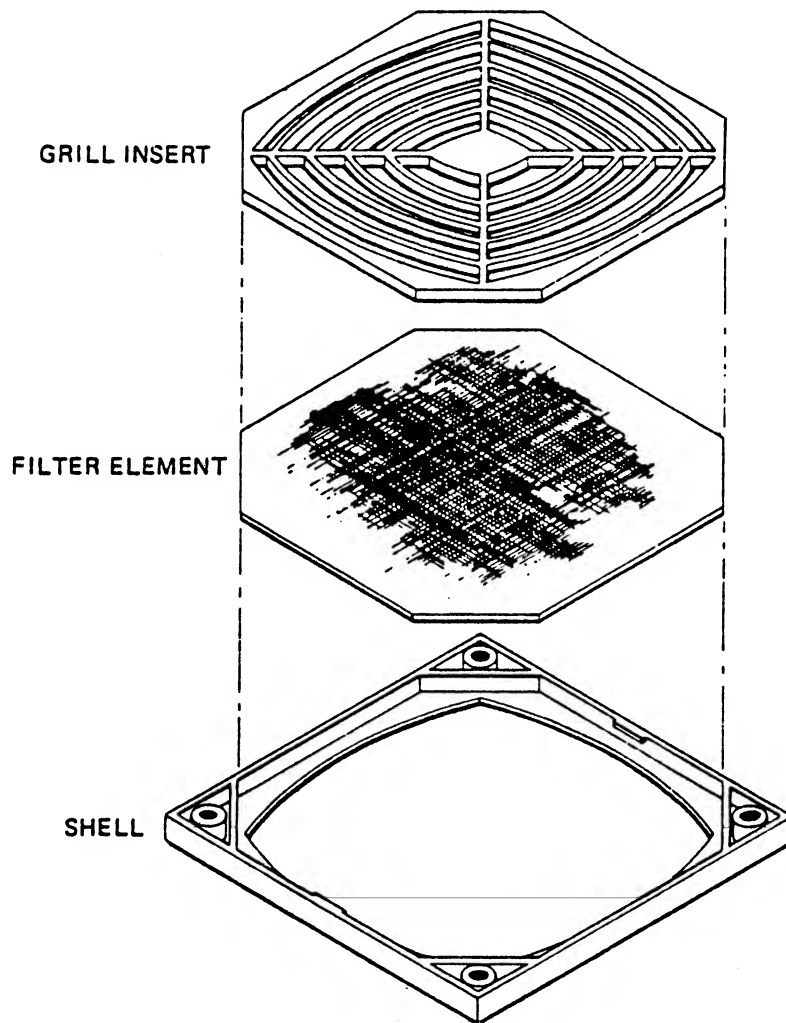

Figure 4-2. Fan Filter Assembly
1. Remove the center grill from the plastic fan-filter holder by snapping it out of the surrounding plastic shell as shown in Figure 4-2.